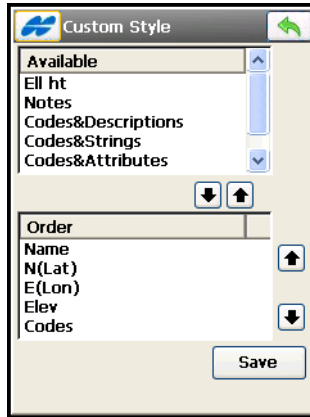

Figure 4-19. Custom Style
- **Edit (Format)** – edits an existing file format. The *Custom Style* screen displays (Figure 4-19 on page 4-19).
- **Add (Format)** – adds a new file format. The *Custom Style* screen (Figure 4-19 on page 4-19) displays.
**On the Custom Style** screen (Figure 4-19 on page 4-19), using the arrows, move items at the bottom of the *Available* column to the *Order* column and arrange in the preferred order with the *Up* and *Down* arrows to the right of the *Order* column.